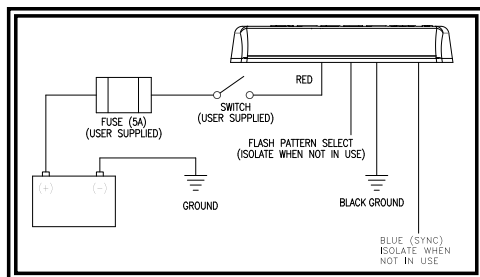

FIGURE 2
8. Connect the wires as shown in the wiring section (see Figure 2).